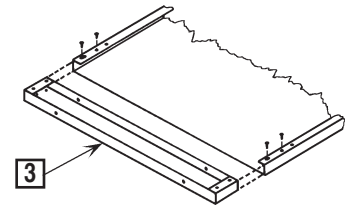

FIGURE 1
- Insert leg attachment channel (Item 3) into bench top with the open area of channel facing upward. Position attachment channel so that the holes in the end flanges are in line with the oval and first hole in the front and back flanges of the bench top. Fasten channel to bench top with (4) screws and nuts (Items 6 & 7) as provided in the **hardware pack 293**. See Figure 1. Repeat procedure at the other end.